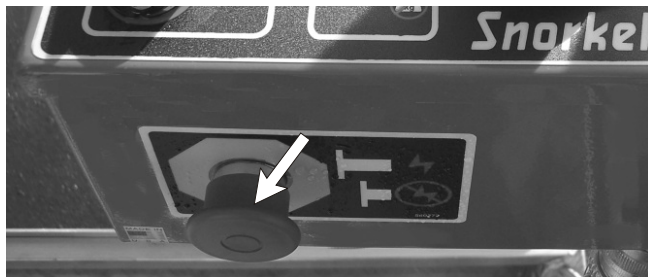

Figure 9.1 - Platform Control Box Emergency Stop Switch
Push either **Emergency Stop** switch, (see Figures 9.1 and 9.2) at any time, and the entire machine stops, the engine turns off, and nothing moves.
1. Check to be sure the **Emergency Stop** switch **1** is pulled out (on) (see Figures 9.1 and 9.3).